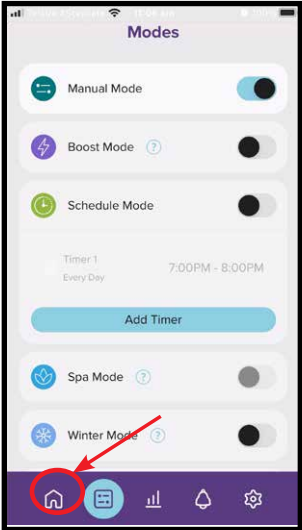

Figure 9.13
- You can now return to the home screen by using the home button (refer Figure 9.13).